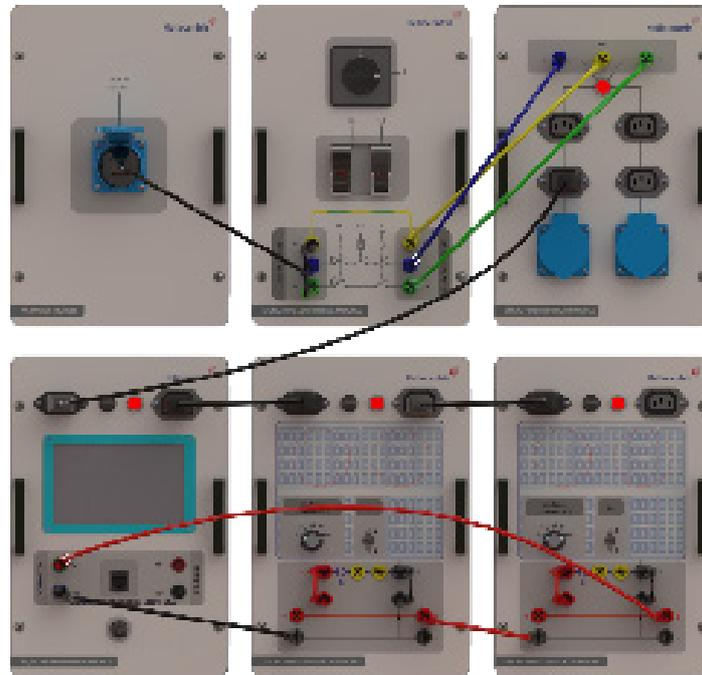

Figure-3
11) Connect as shown in figure-3 to examine the series connection of photovoltaic panels. Set the selector switches on both modules to A.